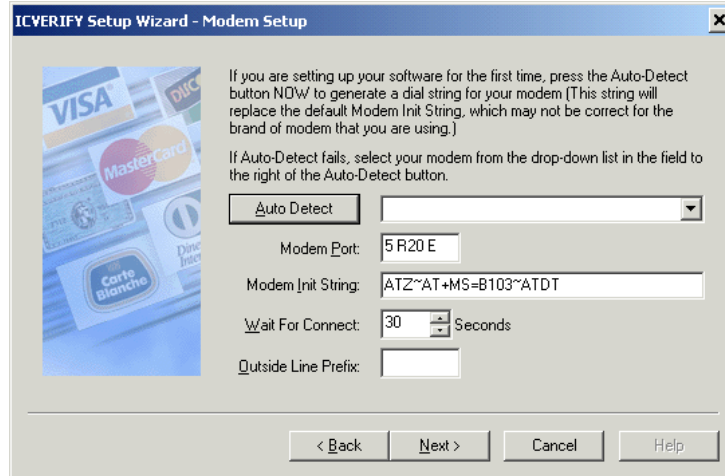

Figure 4.0.0-1: Modem Setup
- 45. Stop once you reach the “Modem Setup” screen (see **Figure 4.0.0-1** below).